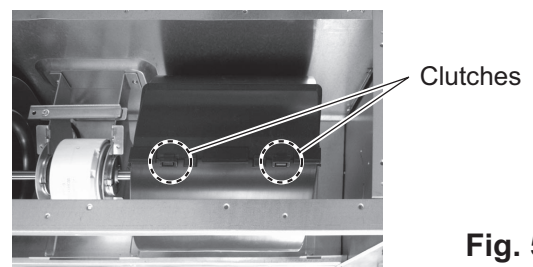

Fig. 5-7a
5. Disconnect two (2) clutches (Fig. 5-7a) fixing the lower side of the fan casing and pull out the protrusion part (Fig. 5-7c) placed onto the side of the main unit (Fig. 5-7b). Then remove the fan casing.